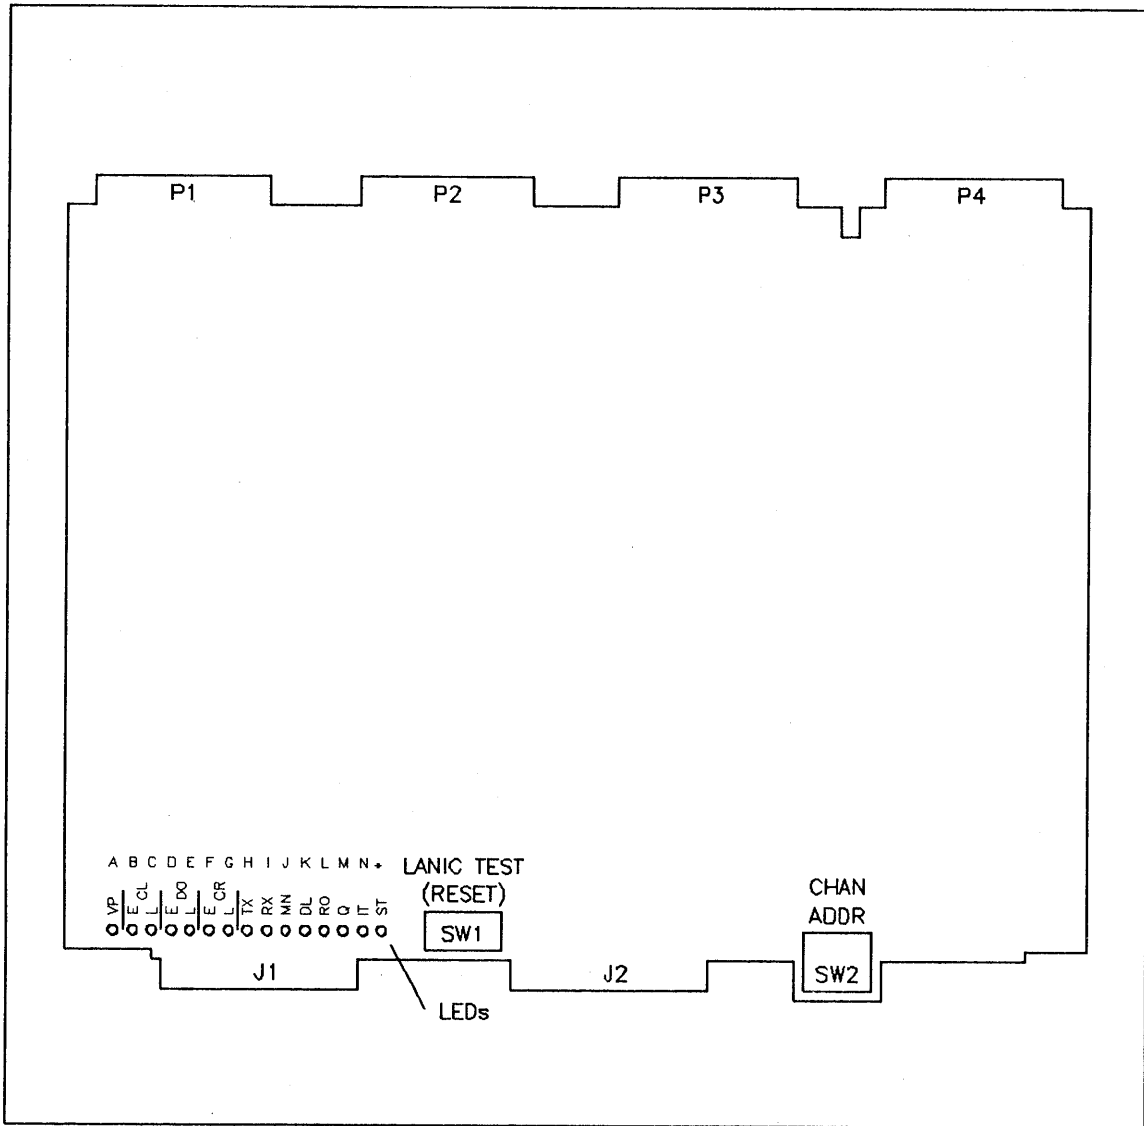

Figure 2-1. LANIC Switch and LED Locations
For the LANIC card, the channel address is set by a CHAN ADDR rotary switch, SW2, located on the front edge of the card. See figure 2-1 for the location of SW2. SW2 can be set to any value between 1 and 15, however, ensure that no GICs, ADCCs, or SIBs are set to the same channel number. Once you have set SW2 to a value, jot the value down. For 3x and 4x systems, this value times 8 will be the DRT number. For 6x systems, the DRT number is computed as follows: $(\text{CHAN ADDR} \times 8) + (\text{IMB} \times 128) = \text{DRT}$.
2. A self-test, which is contained on the card, will execute at power on. There are 15 LEDs located on the front edge of the LANIC card (see figure 2-1). The seven LEDs on the top are used to indicate activity on the AUI cable. The eight LEDs on the bottom are used by self-test.